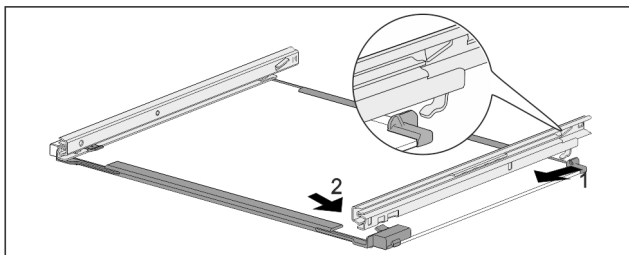

Fig. 266 Glass shelf with rails
- ▶ Hook in rail at the back. Fig. 266 (1)
- ▶ Hook in rail at the front. Fig. 266 (2)